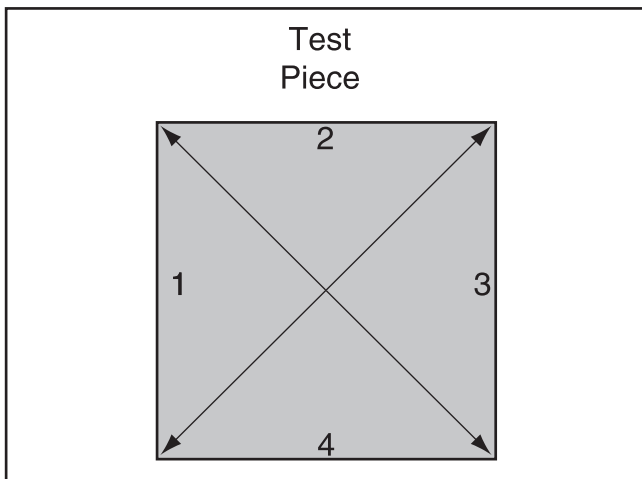

Figure 131. Fence adjustment test piece.
4. Measure the test piece diagonally from corner-to-corner as shown in **Figure 131**.